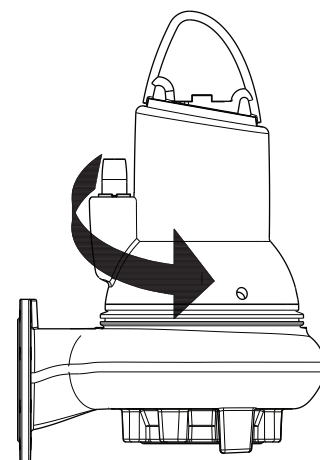

Fig. 16 Jerk direction
2. Start and stop the pump while observing the movement (jerk) of the pump. If connected correctly, the pump will rotate clockwise, i.e. it will jerk counter-clockwise. See fig. 16.